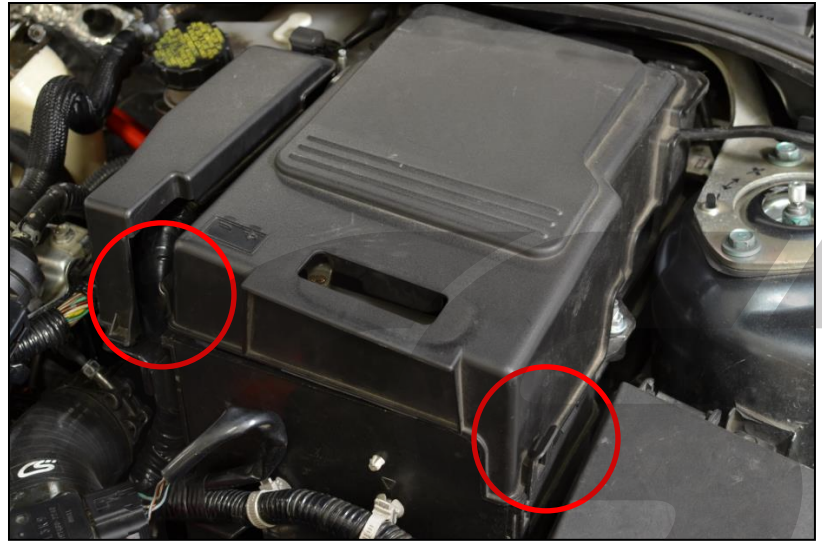

Figure 1a
- a) Remove the battery and ECU cover. Pop the two clip loose circled in red, then lift the cover up and forward. Red circles in Figure 1a.